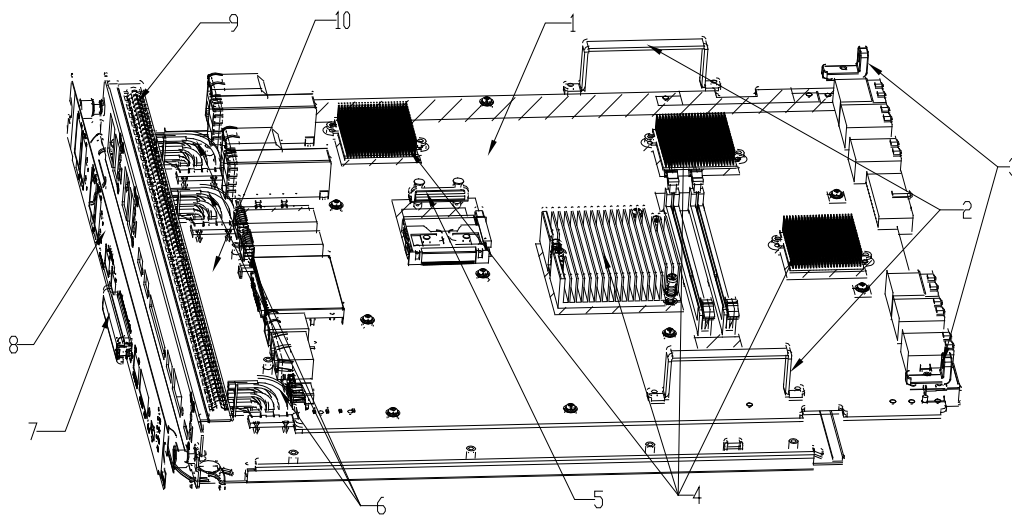

Figure 1 Explode View of the Front Panel
10. All the steps above see Figure 1. Remove the battery from pcb 1,and the detail steps as below: